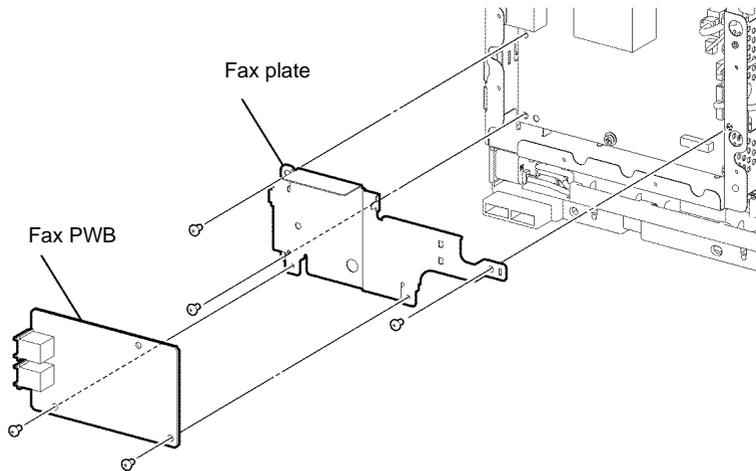

Figure 4 Fax PWB and plate removal
12. Remove two screws (silver, M3, 6mm), then remove the fax PWB, Figure 4.
13. Remove three screws (silver, M3, 6mm), then remove the fax plate, Figure 4.